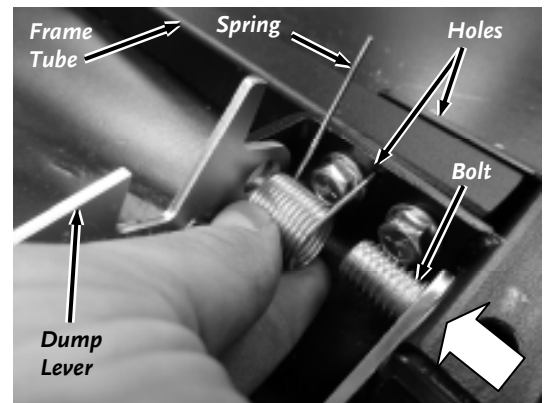

Figure 8
2. Insert one end of the Torsion Spring into the small hole in the Frame (positioned as shown) and push it through to the hole on the other side of the Frame Tube (Figure 8).